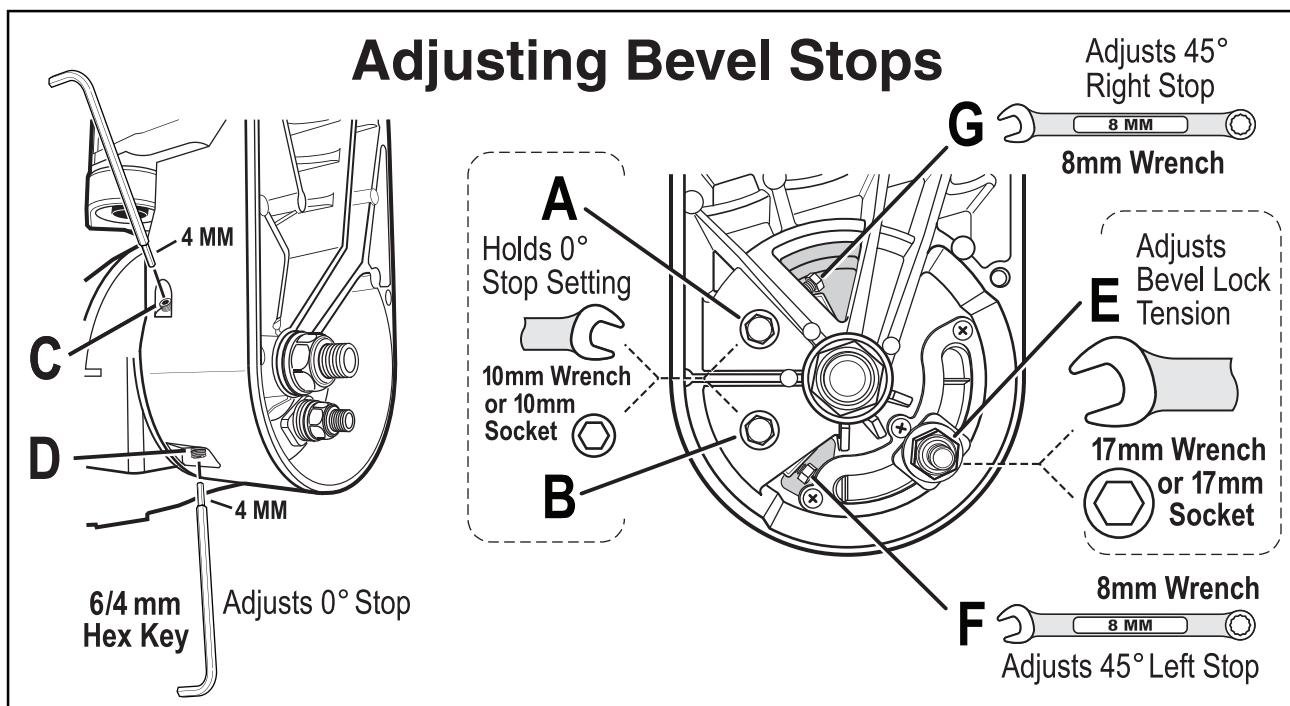

Figure 23
2. Loosen bolt heads "A" and "B" using a 10mm open end wrench or socket (with socket wrench). Loosen bolts at least one full turn (see Figure 23).